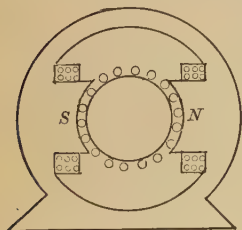

FIG. 312—Bipolar motor.
- Figure 312 represents a bipolar motor with the armature revolving counter-clockwise. Copy it and indicate by dots and crosses* in circles, the direction of the various currents.